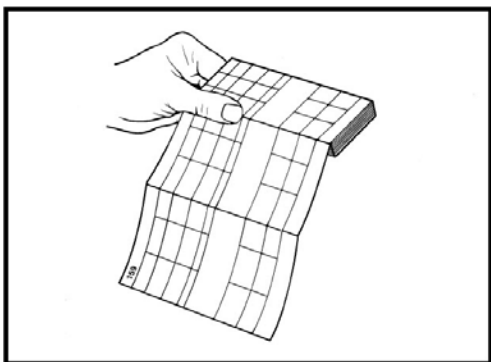

Figure 2-3
4. Unfold two sheets from the top of the package so that they extend toward you (See Figure 2-3).